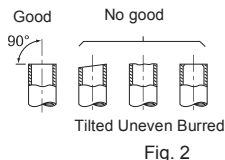

Fig. 3
- When connecting the drain hose to the hard vinyl chloride pipe, be sure to insert it securely into the pipe. (Fig. 3)
- Put the drain cap into the section to which the drain hose is to be attached at the rear of the indoor unit. (Fig. 3)
- 2) Completely remove all burrs from the cut cross section of pipe. (Fig. 3)